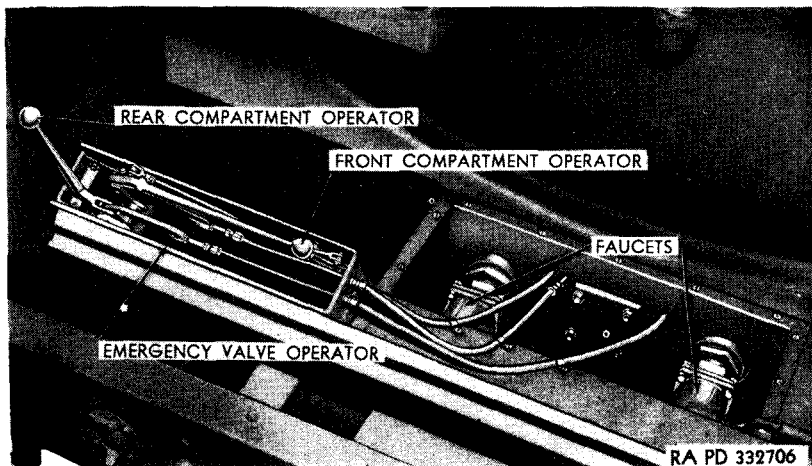

Figure 10—Emergency Valve Operator and Faucets
i. Emergency Valve Operator (fig. 10). The emergency valves, which are located at the outlet sump of each compartment, are operated by an operator in the rear stowage compartment, and an emergency release at the front of the tank (fig. 3). The upper (front) lever operates the front tank compartment, and the lower (rear) lever operates the rear compartment. In raised position the valve is open, in lowered position the valve is closed. The front emergency release is for use in closing the valves from the front of the tank in case of fire at the rear. To close the valves, pull out on the lever.
(1) Remove pump unit from vehicle, and place it on the ground near the rear of the vehicle. Remove the suction hose from stowage compartment. Attach one end to a faucet on the vehicle and the other end to the inlet fitting on the pump. Remove the required discharge hose from the vehicle, and attach to outlet side of pump.
(2) Open the emergency valve of the tank compartment to be emptied (fig. 10). The rear (lower) operator lever operates the rear compartment valve, and the front (upper) lever operates the front compartment valve.
(3) Attach faucet wrench and open faucet (fig. 10).
(4) Start engine and pump (step (11) (c) below).
(5) Remove cap from end of hose nozzle tube. This will be left hanging by the attaching chain. Insert end of nozzle tube into con-